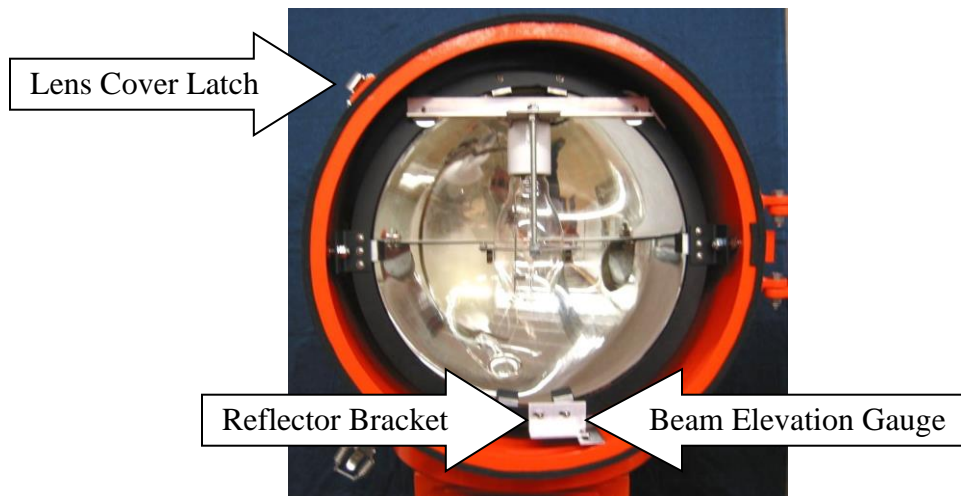

Figure 3
2. Unlatch the 2 lens cover latches as shown in Figure 3, and open the lens cover door.
2. Open the lens cover door on the beacon head by unlatching the 2 cover latches (see Figure 3).
3. Locate the beam elevation gauge as shown in Figure 3.
2. Open the lens cover of the affected lamp (see Figure 3).
3. Note the elevation setting on the elevation gauge (see Figure 3).